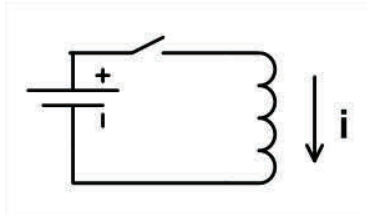

Figure 2.3
2.2.2 DC Current Through an Inductor: Consider the circuit shown in Figure 2.3. During the first instant when the switch is first turned on, no current flows through the inductor. In the next instant, a very small current flows. But after a few instants of time, the magnetic field reaches stabilization and stops changing. At that point there is no induced current trying to flow in the opposite direction, resisting the action of the switched current. So, after a few instants of time, a full DC current is able to flow.